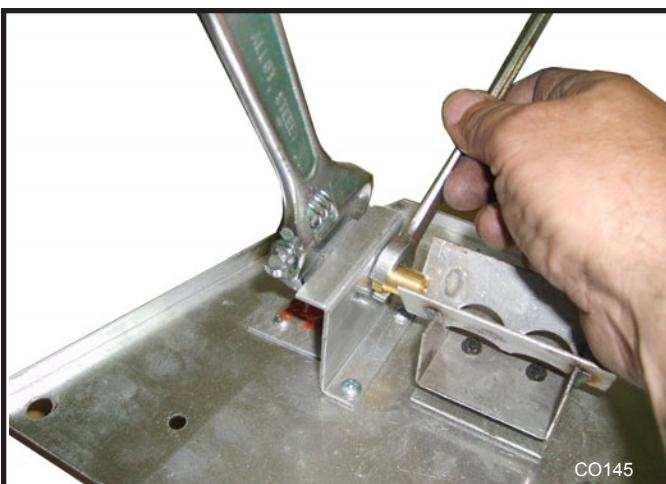

Fig. 81 Use two wrenches to avoid damage to manifold.
3. Remove injector orifice from left burner bracket with a 1/2" wrench. Use a back up wrench to prevent damage to the manifold. (Fig. 81)